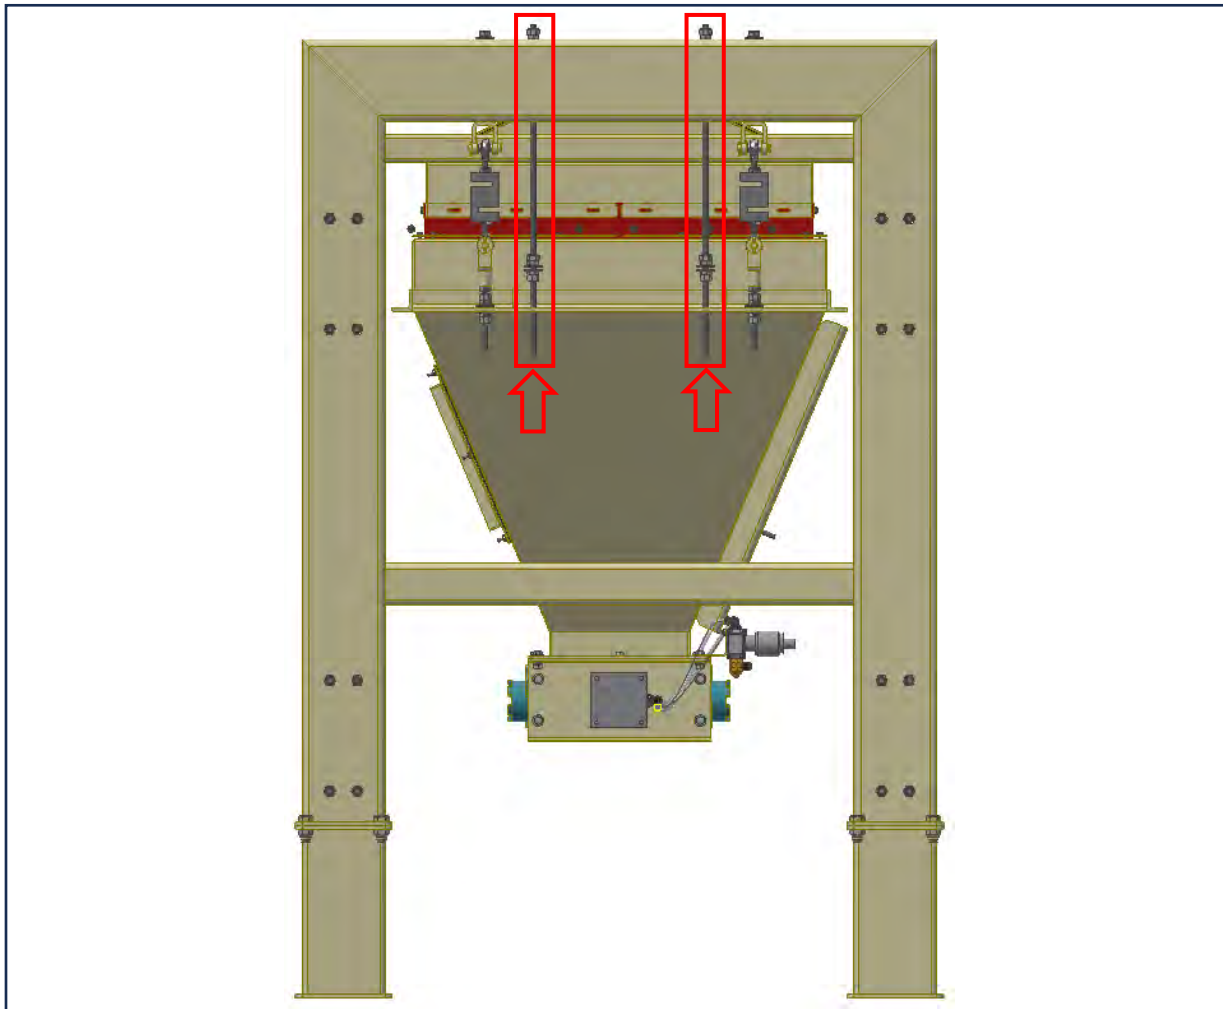

FIGURE 4: Location of the Threaded Rod Assemblies
8. Loosen the nuts on the threaded rod assembly near the load cells so that the load cells carry the weight of the hopper without binding or impacting free movement of the hopper (Figure 4). The threaded rod and nuts should remain in place to catch the hopper in case a load cell or the load cell mounting hardware fails. The threaded rod assemblies also come in handy if a load cell needs to be replaced.